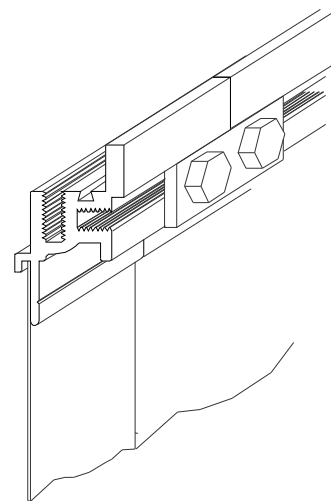

Figure 10
STEP 5. Attach the splice bar to the to the frame sections using the fasteners (part no. H1412S) provided by the factory (see Figure 10).